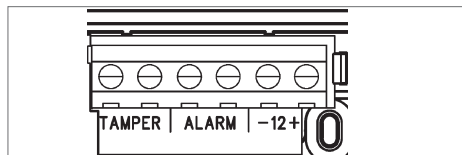

Figure 3.4: Terminal
2. Attach wire to the appropriate terminals. Tamper and Alarm Contact normally-closed (NC), Power 12VDC. Refer to Figure 3.4.